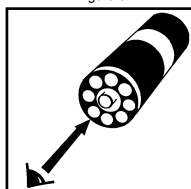

Figure 4
- a. **Low Range Comparator (fig. 4):** Place the ampoule, flat end first, into the comparator. Hold the comparator up toward a source of light and view from the bottom. Rotate the comparator until the best color match is found.